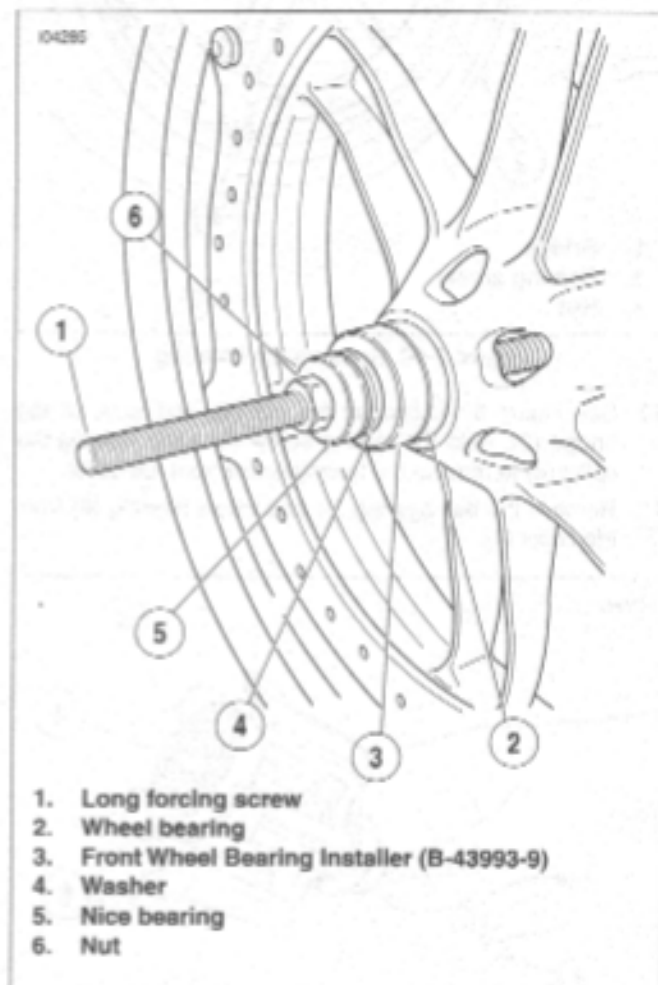

Figure 2-14. Install Bearing
2. See Figure 2-14. Sparingly apply Extreme Pressure Lubricant (J-23444-A) to the threads of the long forcing screw (1) to prolong service life and ensure smooth